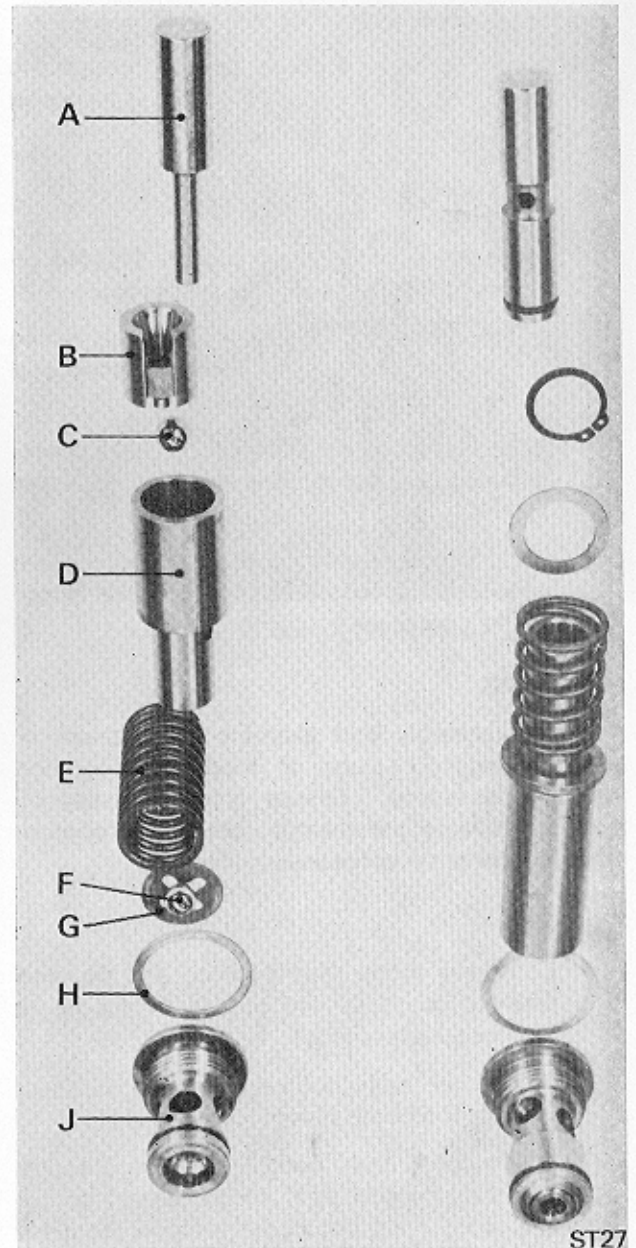

Fig. 8A. Lubricating Oil Pumps
**LUBRICATING OIL PUMPS (Fig. 8A)**